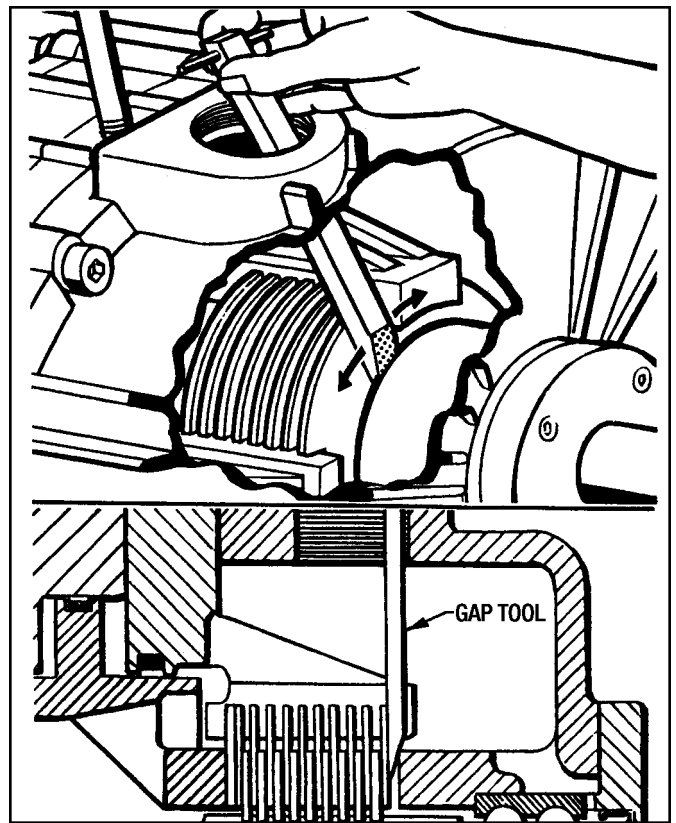

Figure 9.14 - Inserting Gap Tool
4. Firmly insert the Gap Tool through the inspection port above the Brake Stack so that any slack is removed from the Brake Stack. **NOTE:** The straight side of the Gap Tool is towards the Brake Stack. (See Figure 9.14)